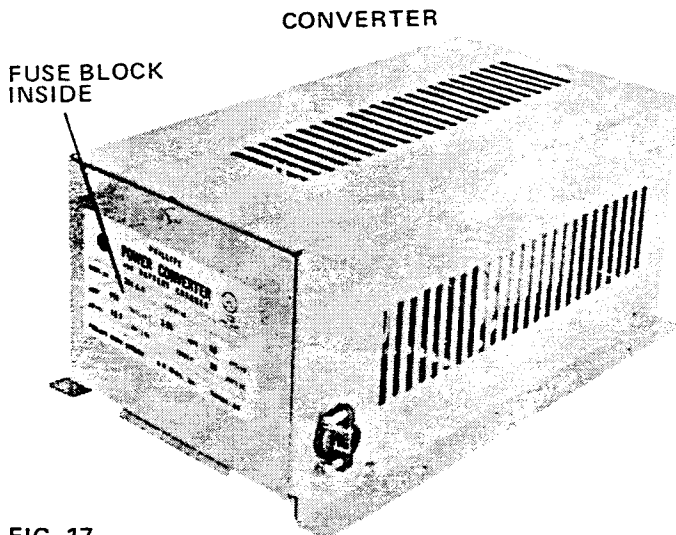

FIG. 17
**Converter** — 110 VAC shoreline input is transformed and converted to 12 VDC output. 15 amp. fuses, which protect the various appliances and accessories, are located inside the converter (FIG. 17).